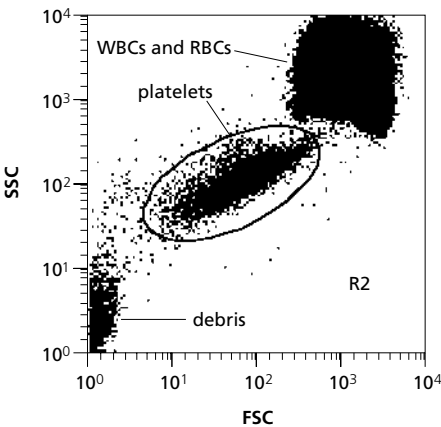
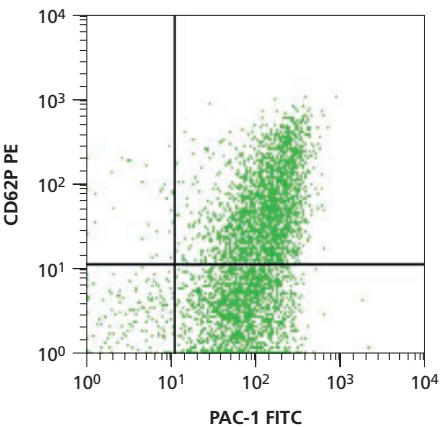
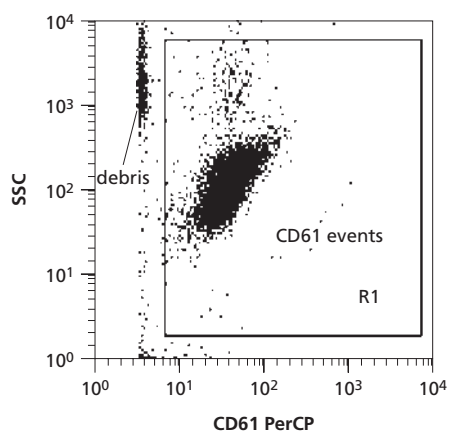
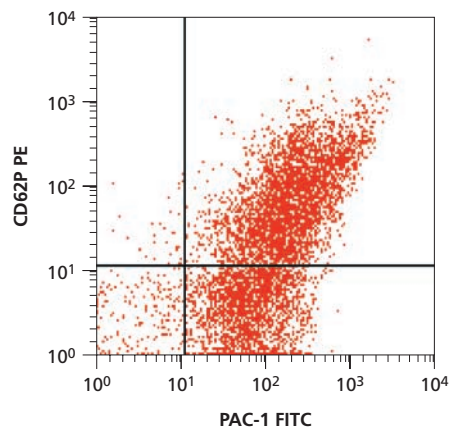

Figure 1 Unstimulated fresh whole blood
Figure 4 ADP-stimulated fresh whole blood (gated on R2)
Figure 5 Unstimulated fresh whole blood
Figure 8 ADP-stimulated fresh whole blood (gated on R1)
Acquisition and analysis can be performed on scatter gating (Figure 1 through Figure 4) or fluorescence gating (Figure 5 through Figure 8). Scatter gating (gating on forward scatter [FSC] and side scatter [SSC]) can be difficult when the platelet count is low or when there is aggregation in the sample. In both normal and disease states, and especially when activated, platelets and red blood cells can have overlapping light scatter signatures. For scatter gating, exclude debris and background noise by setting the appropriate FSC threshold.
3. Trigger acquisition on positive events using an activation-independent platelet-specific antibody conjugated to an FL3 conjugate (Figure 5).
7. Display the total platelet population, including those associated with WBCs, or any light-scatter gated subpopulation as two-color dot plots and statistically analyze (Figure 8).
**Figure 1** Region 1 includes the CD8-positive and CD8-negative single lymphocytes within the lymphocyte gate. Region 2 contains the monocyte population. Region 3 includes a population of bright CD8-positive events that are outside of the standard lymphocyte gate.